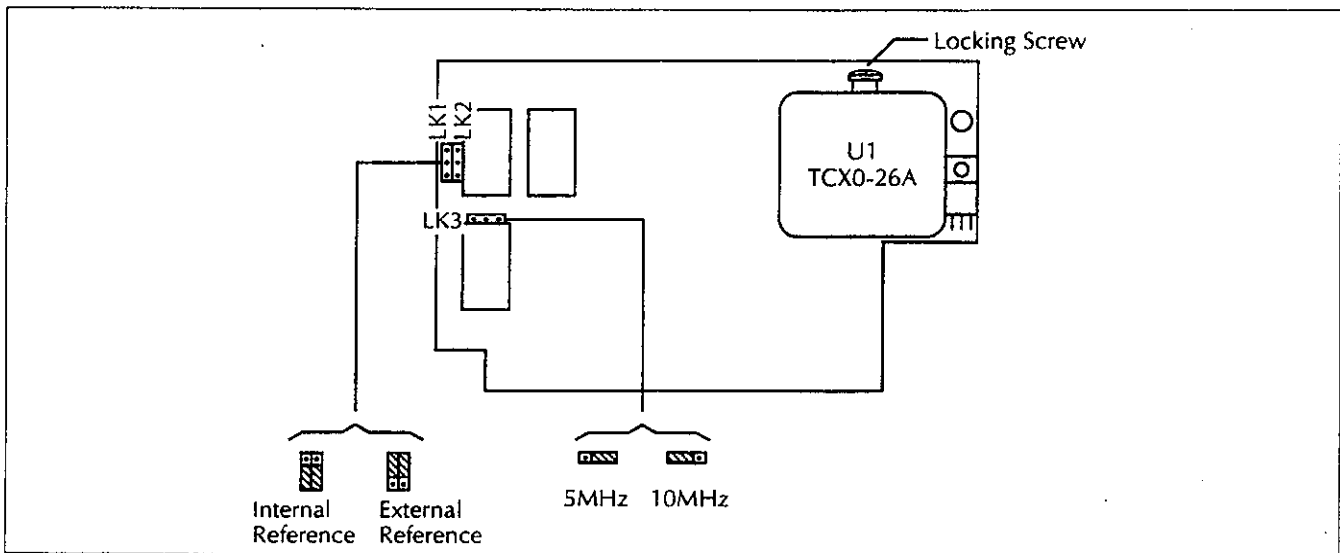

Figure 5-1. Reference Frequency and INT/EXT Clock Selection.
A. For Models 776/2.4G and 776/2.4G/R, refer to Figure 5-1 for the shorting link locations on the TCXO board. LK1 and LK2 select the internal or external reference. LK3 configures the instrument for a 5 MHz or 10 MHz external reference.